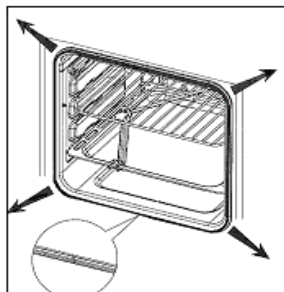

Figure 13
2. Remove the old sealing by pulling out the seal from corners one by one as shown in **(See Figure 13)**,